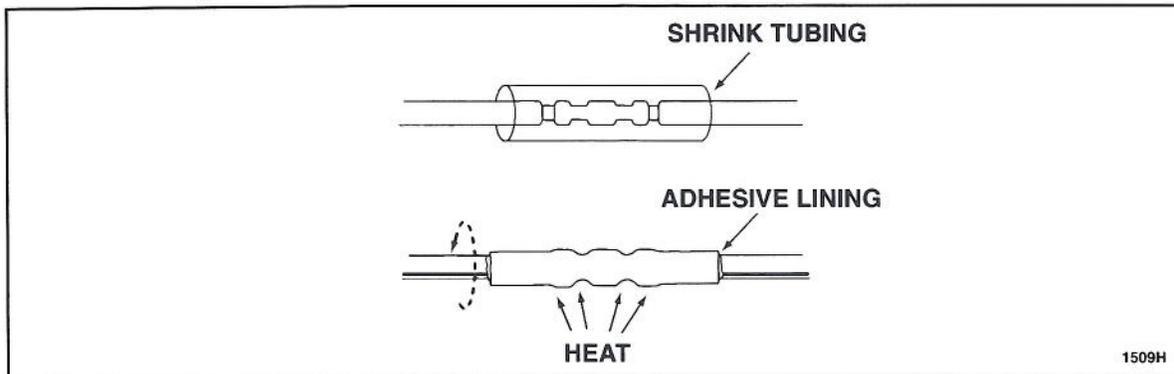

FIGURE 7
13. Position the heat shrink tubing over both ends of the each wire splice connector. Using the Rotunda Shielded Flameless Heat Gun with Heat Deflector, number NAIAT-R5902 or equivalent, equipped with a shrink tubing attachment, heat the heat shrink tubing until the adhesive lining comes out of both ends. See Figure 7.